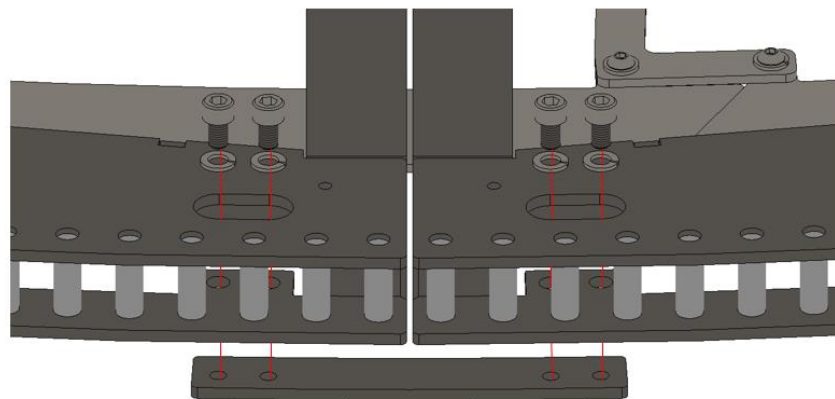

Figure 8: Pie-to-pie connector screw and plate installation
Step 6: Fasten the pie-to-pie connector at the seam of each pie piece (Item 9) located at the perimeter of the turntable shown in Figure 8. This attaches to the underside of the turntable with M10 x 16 Socket head cap screws and M10 split lock washer (H5, H7). Fasten the hardware but leave loose until all connecting plates are attached.